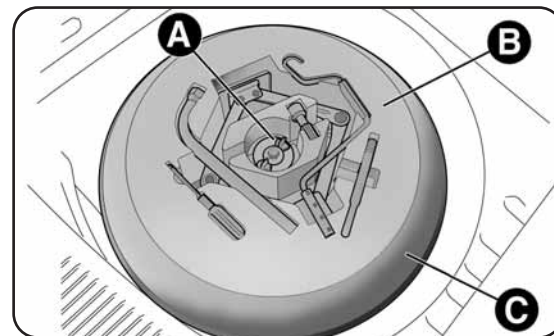
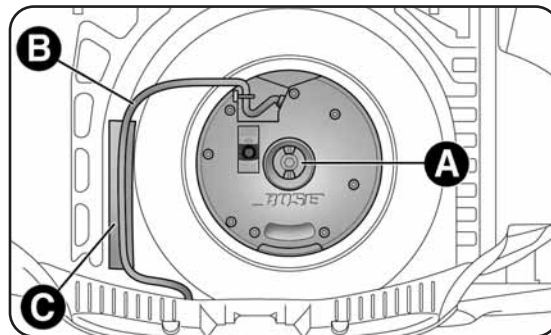

fig. 3
fig. 10
- undo locking device A-fig. 3, remove tool box B and place it next to the wheel to be replaced; remove small spare wheel C;
- undo locking device A-fig. 10 and lift up the Subwoofer. Then remove connection cable B from Velcro attachment C;
- rest cable B-fig. 10 in Velcro Attachment C to avoid pinching it. Then tighten locking device A-fig. 3. Replace the luggage compartment mat.